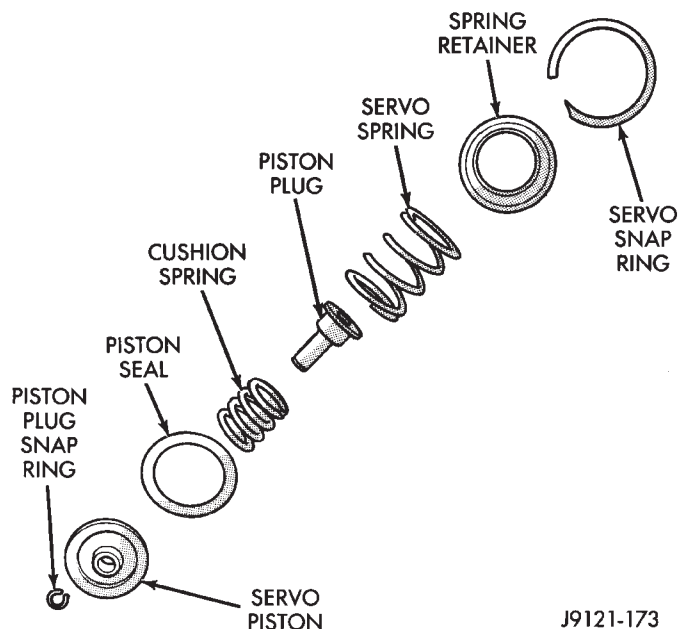
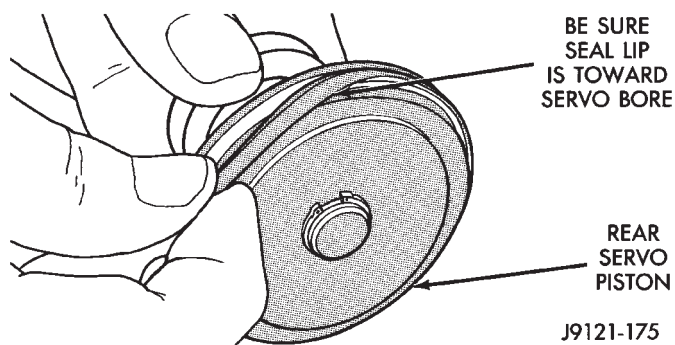

Fig. 99 Rear Servo Components
Fig. 100 Installing Rear Servo Piston Seal
Inspect the servo components (Fig. 99). Replace the servo and cushion springs if collapsed, distorted or broken. Replace the plug or piston if cracked, bent,
- (1) Assemble piston plug, cushion spring and piston (Fig. 99).
- (2) Compress cushion spring in vise and install piston plug snap ring.
- (3) Install new seal on piston. Be sure seal lip is toward servo bore (Fig. 100).
- (4) Lubricate piston seal with petroleum jelly. Lubricate other servo parts with transmission fluid.